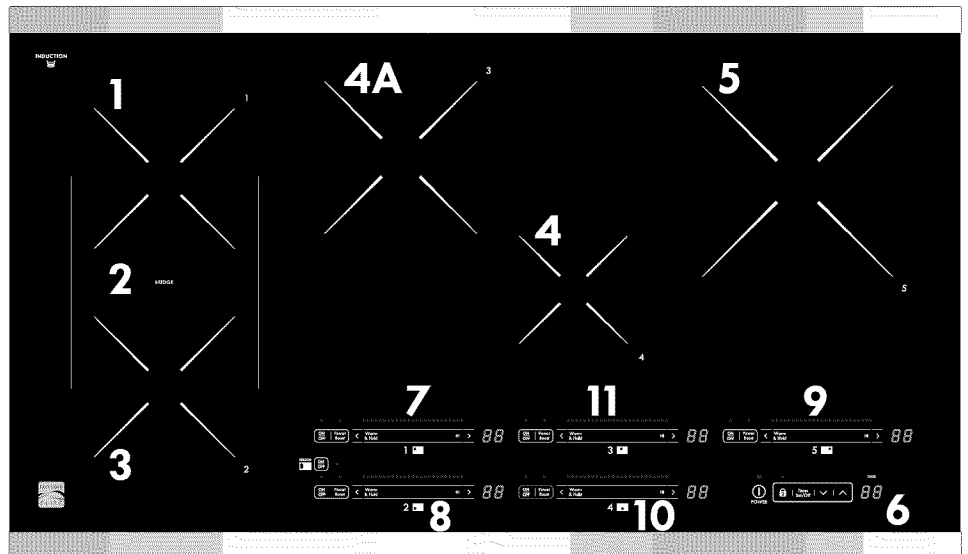

Fig. 2 - 36" Model
11. Center Rear Cooking Zone Control Pads (Fig. 2)